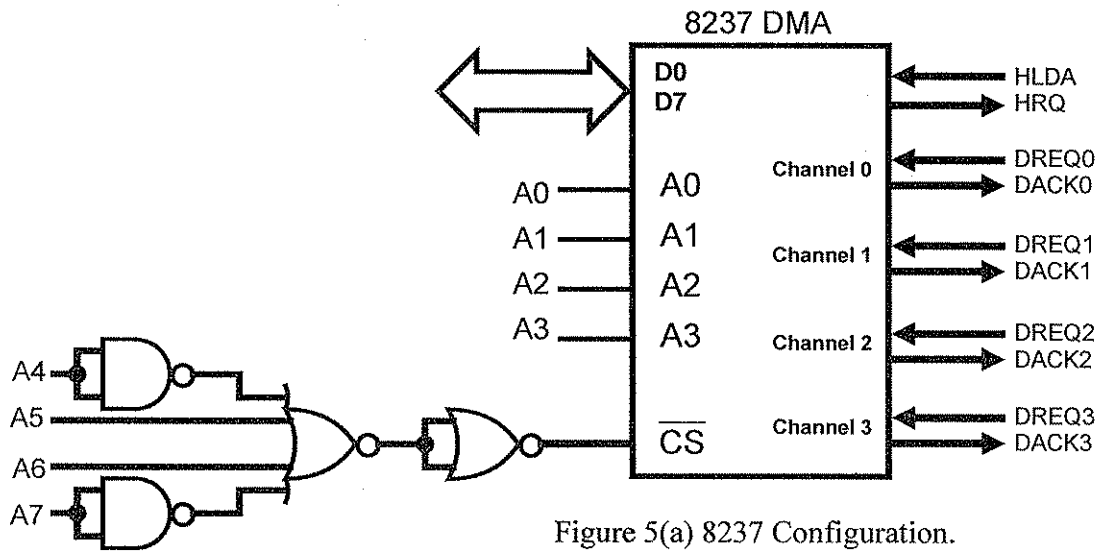

Figure 5(a) 8237 Configuration.
- (a) The 8237 DMA is configured as shown in Figure 5(a). Determine the port addresses assigned to the four channels. Write a program using channel 3 memory address and count registers to transfer 8K starting from offset 4567H using the port address obtained. (5 marks)
- (b) A transmission system uses asynchronous serial data communication as shown in Figure 5(b) with LSB being transmitted first to transmit a passkey to the receiver.